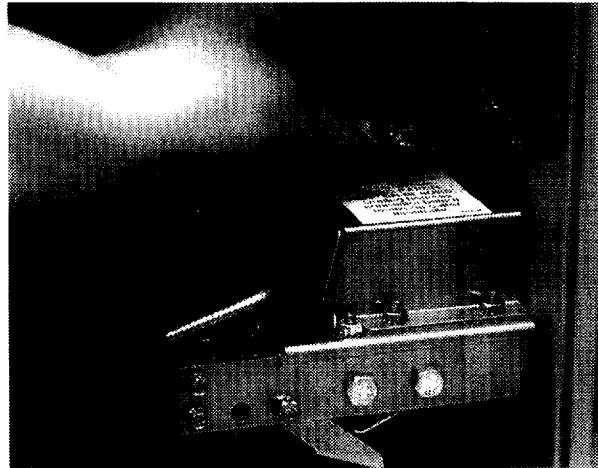

Figure 5
- b. Remove the knurl screw holding the paper cutter to the inside of the cabinet. Use a screwdriver, if necessary (figure 5).